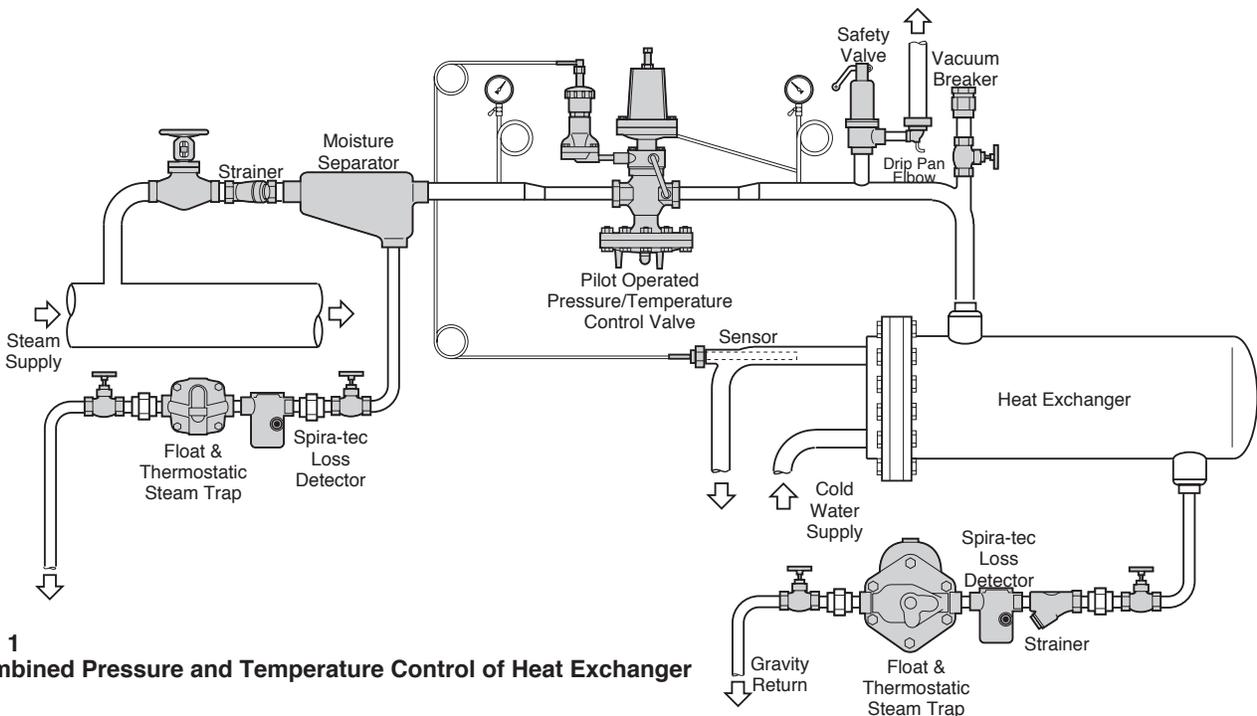

Fig. 1
1. A typical hookup sketch as shown in Fig. 1 will aid in planning a correct installation.
6. Valve should always be installed in a horizontal line. (See Fig. 1).
To insure proper operation of the valve and avoid premature wear, it is recommended that a steam trap be installed on the steam supply line. (See Fig. 1).
1. It is strongly recommended that strainers be installed before the pressure temperature regulating valve and steam traps. (See Fig. 1)
2. Connect the sensing line to a straight portion of the piping 10 pipe diameters from nearest fitting downstream from the valve and approximately 1 foot from elbows, tees, valves and other restrictions. (See Fig. 1).